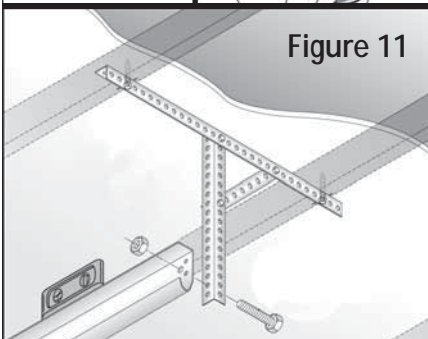

Figure 11
Step 7: (Standard Lift) Securely fasten the vertical Hanger Angle to the Horizontal Track using (1) 3/8"x1-1/2" Machine Bolt and (1) 3/8"-16 Hex Nut (Fig 11).